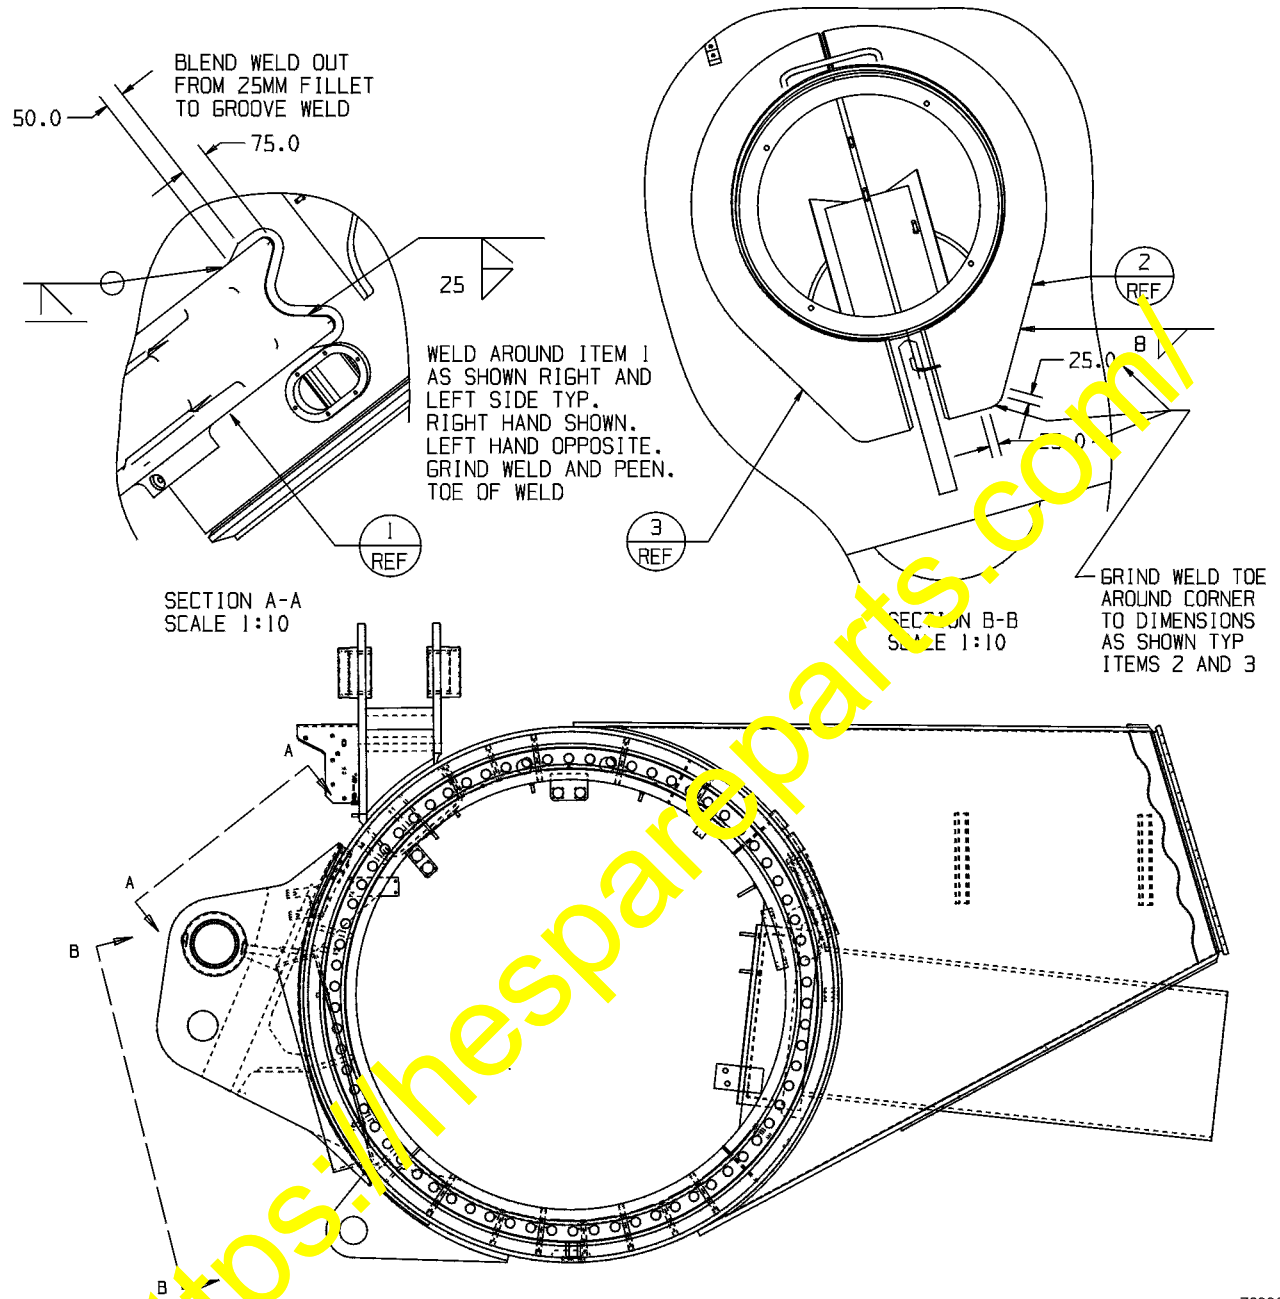

FIGURE 1. WELD CRACK REPAIR
2. **Suspension Mounts** - Add 25 mm fillet weld around upper part of suspension mount as shown in Figure 1, Section A-A. The weld must have a smooth profile and the toe must have a good transition to the parent material before peening is performed. Grinding the weld face and toe area is permitted to correct unacceptable conditions.
6. **Reinforcement Plates** - Grind the toe of the weld in the area shown in Figure 1, Section B-B per Parts & Service News (AA00046B, Annex B 2.0).